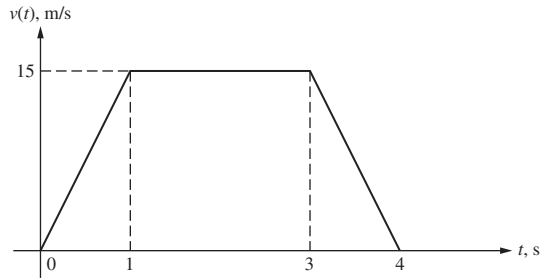

Figure P1.13 Velocity of a robot trajectory.
- 1-13.** A linear trajectory is planned for a robot to pick up a part in a manufacturing process. The velocity of the trajectory of one of the joints is shown in Fig. P1.13. Determine the equation of $v(t)$ for